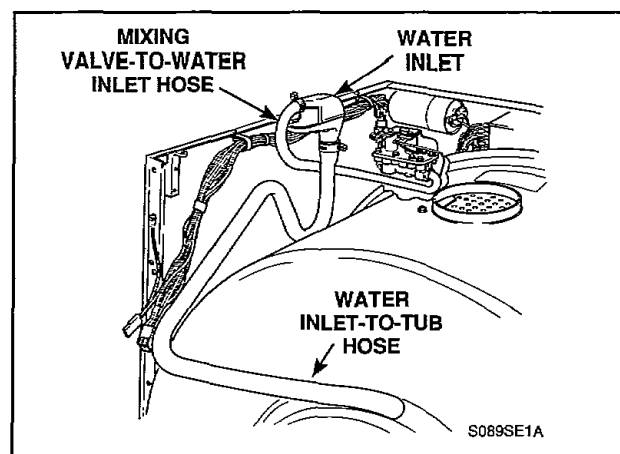

Figure 31
- h. Loosen hose clamps and remove hoses from water inlet, *Figure 31*.
IMPORTANT: Install the water inlet-to-tub hose in front of mixing valve water inlet hose, *Figure 31*.
- j. Disconnect water inlet-to-tub hose from water inlet and from outer tub, *Figure 31*.
IMPORTANT: Install the water inlet-to-tub hose in front of mixing valve-to-water inlet hose, *Figure 31*.